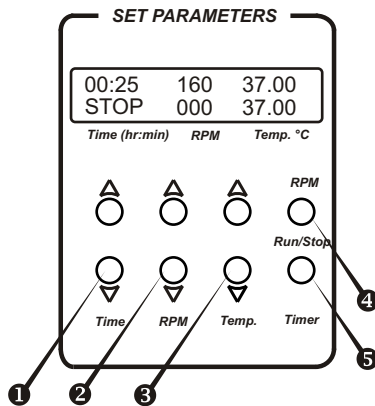

Fig.1 Control panel
- 4.3. With the help of "▲" and "▼" **Time** keys (Fig. 1/●) set the required working time interval in hours and minutes (increment 1 min). If the key is pressed more than 2 sec the increment becomes bigger.
- 4.4. With the help of “▲” and “▼” **RPM** keys (Fig. 1/②) set the required shaking intensity in revolutions per minute (increment 10 RPM). If the key is pressed more than 2 sec the increment becomes bigger.
- 4.5. With the help of “▲” and “▼” **Temp.** keys (Fig. 1/③) set the necessary temperature (increment 0.1°C). If the key is pressed more than 2 sec the increment becomes bigger. The set parameters can also be changed during operation.
- 4.7. Press the **RPM-Run/Stop** key (Fig. 1/④). The platform will start rotation and the timer indicator will start counting up the time interval (with 1 min precision).
Caution: At the end of the set time period the platform movement is stopped automatically, but the heating can be stopped ONLY manually by reducing the temperature with the “▼” **Temp.** key (Fig. 1/③ - lower key) till the OFF sign appears in the upper line of the display.
- 4.10. If required, it is a possibility to restart the timer when it is running. Press the **Timer-Run/Stop** key once (Fig. 1/⑤) to stop the timer. Press the **Timer-Run/Stop** key again to restart the timer.